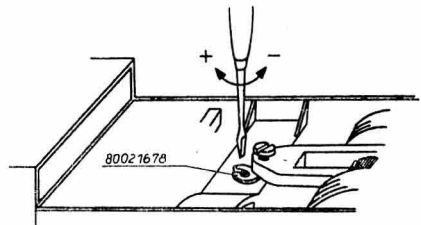

fig. 4
- 2.5. Setting of backlash of teeth between worm and worm gear with adjusting device 80 02 16 78 (fig. 4).